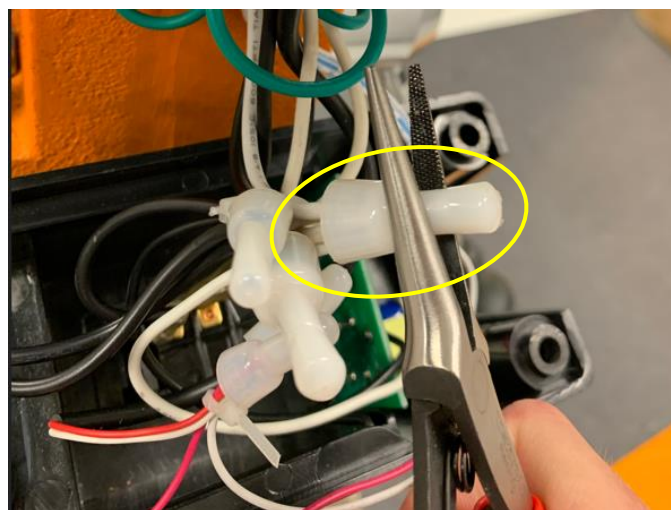

Figure 9. Uncrimping the Plastic End Cap
5. Next, trace the white wire from the motor's power cord and undo the white plastic end cap that it terminates in as shown in Figure 9. This cap has a thin inner metal sheath that allows it to be crimped to the wires. First undo this crimp (by squeezing the flattened part of the cap and making the cap circular) using needle-nosed pliers and then the cap should easily slide off.